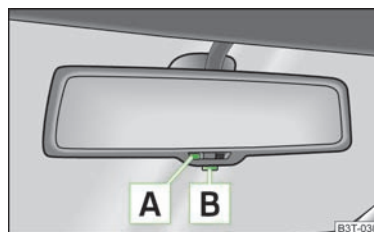

Fig. 52
- Press the button **B** » Fig. 52, the indicator light **A** lights up.